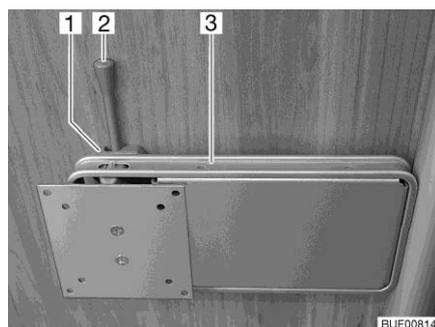

Fig. 67 Holder on the column
- Push the release lever (Fig. 67,2) to the side and turn the holder (Fig. 67,3) with the flat screen to the desired position.
- Turn the flat screen back until the holder (Fig. 67,3) engages in the lock (Fig. 67,1).